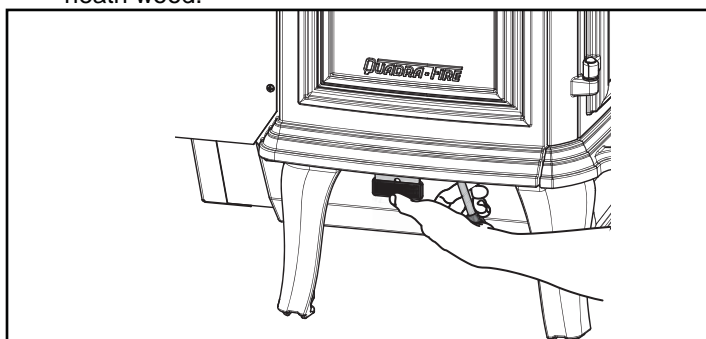

Figure 15.1
- a. The appliance and ashes must be completely cooled down before using the Ash Removal System. Reach down and locate the ash removal door handle under the left side of the appliance in the center. Grasp the handle with your fingers and place your thumb on the latch release (**Figure 15.1**). Press the latch release inward. Keep the latch release pressed in and lower the handle gently. Take your thumb off the release once the handle is clear of the latch and guide the handle back until it stops.